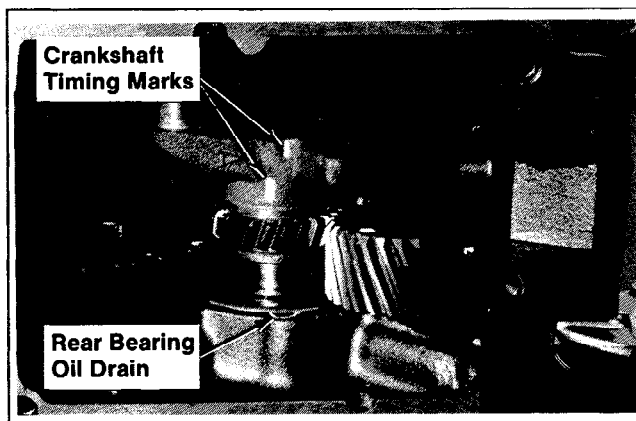

Figure 12-21. Aligning Crankshaft And Rear Bearing Oil Drain.
3. Lubricate the rear bearing surface of crankshaft. Insert the PTO end of crankshaft through the rear bearing. "Straddle" the primary and secondary timing marks on crankshaft over the rear bearing oil drain. Refer to Figure 12-21.